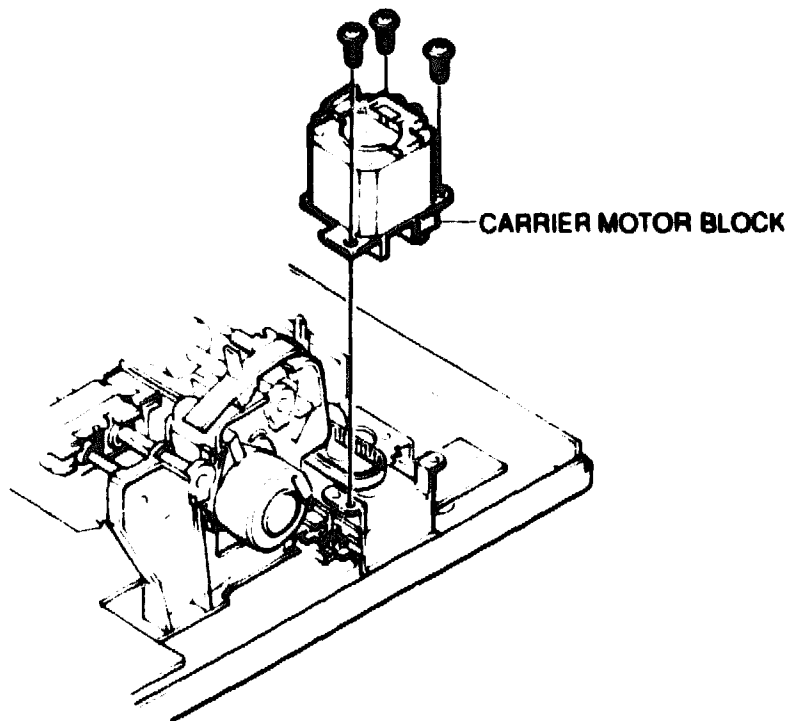

Figure 8-4 Location of the Belt Tension Adjuster Locking Screw
7. Slacken the belt tension adjuster clamp screw (see Figure 8-4), remove the belt from the idler pulley.